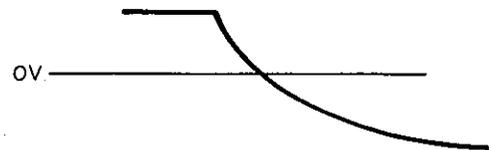

Fig. 6-4 Voltage at ⑩ terminal when FS1 = 0 → 1
III \$03 FS1 becomes 1 from the status described above and the current source of + 60μA is disconnected. Then, the CR's charge/discharge circuit is formed and the voltage at ⑩ terminal decreases as the time elapses as shown in Fig. 6-4.